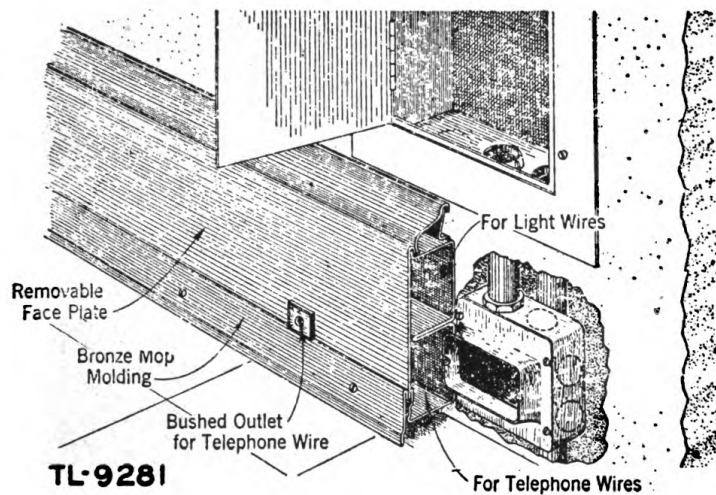

Figure 93. Metal base raceway.
e. **METAL BASE RACEWAY.** A metal base raceway takes the place of the usual baseboard. The front part of the raceway is removable, exposing two compartments: the upper one for branch electric light wires and the lower one for telephone wires. (See fig. 93.) The metal base raceway is used principally in small floor areas where it is probable that desks will be placed against the wall.